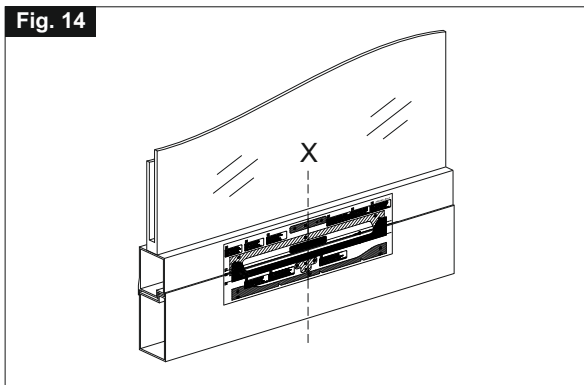

Fig. 15
- 4) **Fig. 15-** With a suitable drill, create on the window frame holes having the related diameter, given on the template;